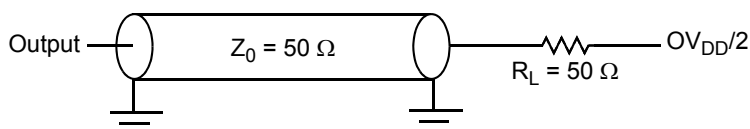

Figure 32. AC Test Load for the JTAG Interface
1. All outputs are measured from the midpoint voltage of the falling/rising edge of t_{TCLK} to the midpoint of the signal in question. The output timings are measured at the pins. All output timings assume a purely resistive 50-Ω load (see Figure 32). Time-of-flight delays must be added for trace lengths, vias, and connectors in the system.
2. The symbols used for timing specifications follow the pattern of $t_{(first\ two\ letters\ of\ functional\ block)(signal)(state)(reference)(state)}$ for inputs and $t_{(first\ two\ letters\ of\ functional\ block)(reference)(state)(signal)(state)}$ for outputs. For example, t_{JTDVXH} symbolizes JTAG device timing (JT) with respect to the time data input signals (D) reaching the valid state (V) relative to the t_{JT} clock reference (K) going to the high (H) state or setup time. Also, t_{JTDVXH} symbolizes JTAG timing (JT) with respect to the time data input signals (D) went invalid (X) relative to the t_{JT} clock reference (K) going to the high (H) state. Note that, in general, the clock reference symbol representation is based on three letters representing the clock of a particular functional. For rise and fall times, the latter convention is used with the appropriate letter: R (rise) or F (fall).